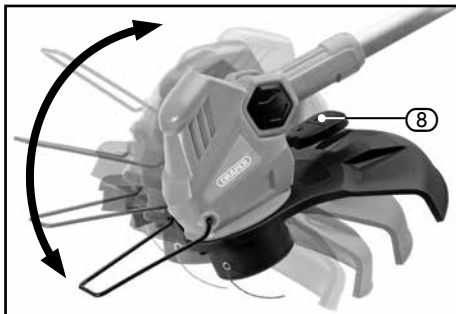
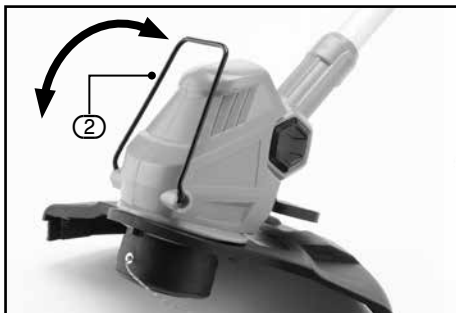
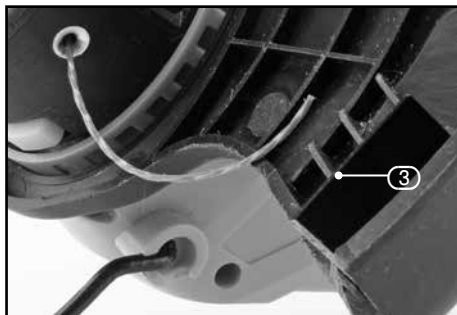

FIG.11
FIG.12
FIG.13
10.1 HEIGHT ADJUSTMENT – FIG.11
- To unlock the telescopic height adjustment (4) turn it in the direction indicated to unlock.
10.2 AUXILIARY HANDLE ADJUSTMENT – FIG.12
- Adjust the auxiliary handle (5) to the most comfortable working position.
10.3 HEAD ANGLE ADJUSTMENT – FIG.13